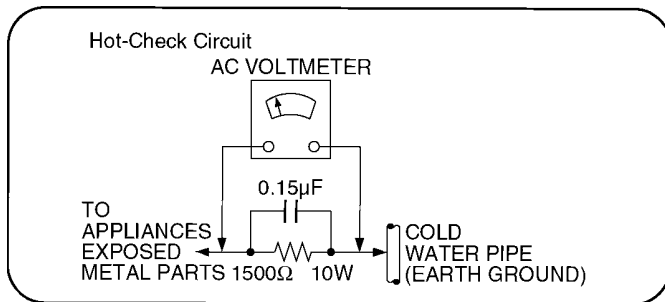

Figure 1
2.1.2. LEAKAGE CURRENT HOT CHECK (See Figure 1.)
2. Connect a $1.5k\Omega$, 10 watts resistor, in parallel with a $0.15\mu\text{F}$ capacitors, between each exposed metallic part on the set and a good earth ground such as a water pipe, as shown in Figure 1.